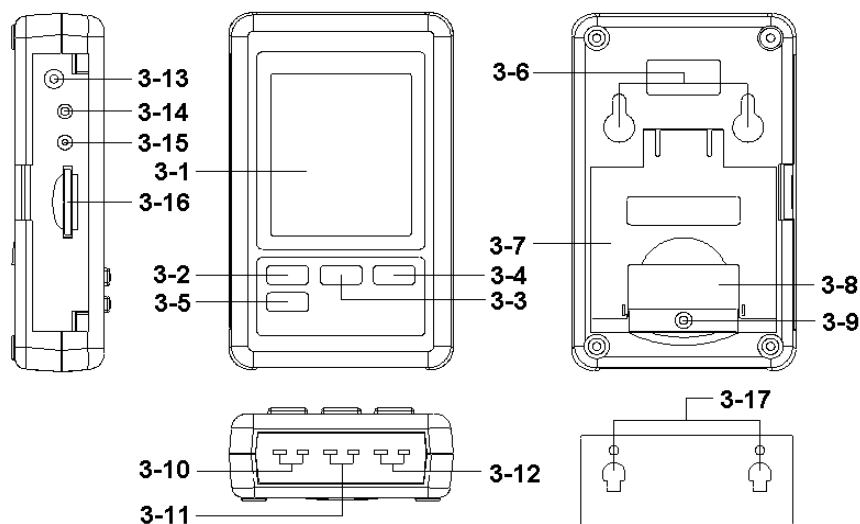

Fig. 1
- * Loose the " Screw of the battery cover " (3-9, Fig. 1) and take away the " Battery Cover " (3-8, Fig. 1) from the meter.
- 2) Insert the plug of " Temp. probe " (For example the included Temp. probe, TP-01 " into the " T1 Temp. probe input socket " (3-10, Fig. 1).
If you have other Temp. probes, then plug its plug to " T2 Temp. probe input socket " (3-11, Fig. 1) or " T3 Temp. probe input socket " (3-12, Fig. 1).
- 3) The " Display " (3-1, Fig. 1) will show the temperature value (T1, T2, T3) that sensing from Temp. probe.
Prepare a " SD memory card " (1 GB to 16 GB, optional), insert the SD card into the " SD card socket " (3-16, Fig. 1) with the correct direction exactly.
Press the " Logger button (3-2, Fig. 1) > 2 seconds continuously, until the Display show the indicator " DATALOGGER ", release the " Logger Button " (3-2, Fig. 1), then the measuring data along the time information will be saved into the memory circuit.
During execute the Datalogger function (Display show the " Datalogger " indicator), press the " Logger button " (3-2, Fig. 1) > 2 seconds continuously, until the Display indicator " DATALOGGER " is disappeared, release the " Logger Button " will finish the Datalogger function.
Press " Time button " (3-3, Fig. 1) > 2 seconds continuously, the LCD display will present the time information of Year/Month/Date, Hour/Minute/Second and the sampling value.
- 1) After execute the Data Logger function, take away the SD card out from the " SD card socket " (3-16, Fig. 1).